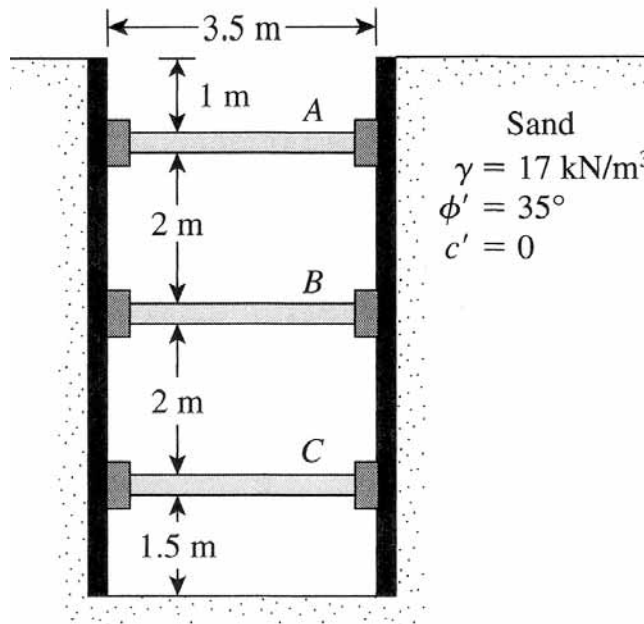

Figure 3
d) For the braced cut shown ($s=3$ m) in Figure 3,